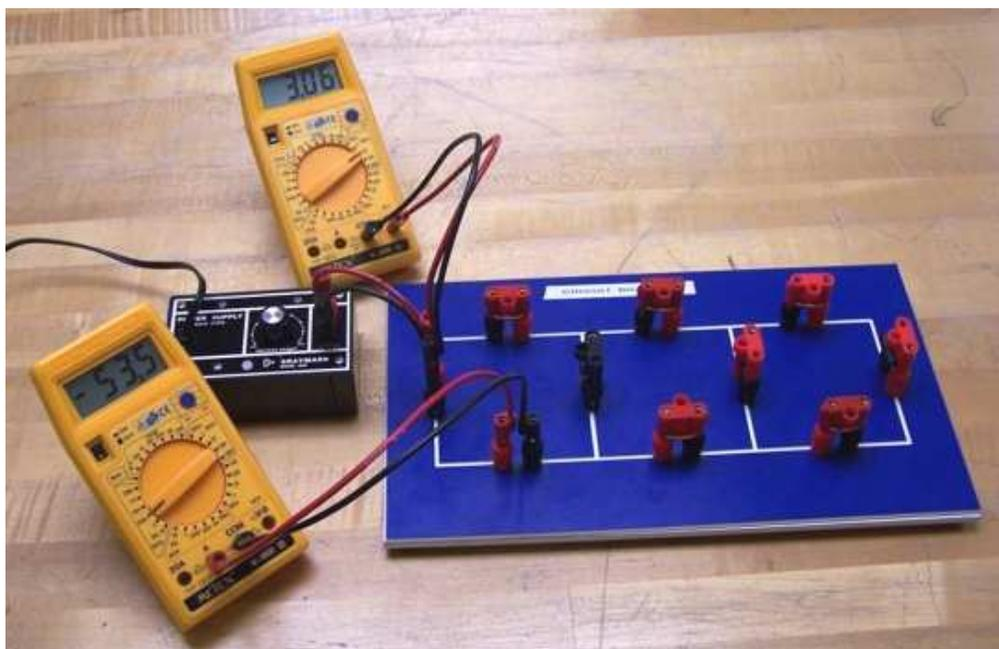
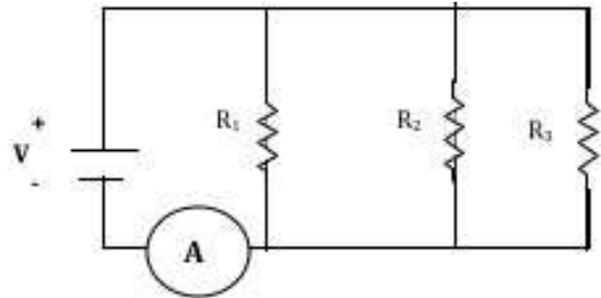

Figure 16.2: Parallel Circuit
Figure 16.5: Parallel Circuit Schematic
The second type of circuit you will construct is a **parallel circuit** (Fig. 16.2 and Fig. 16.5). Resistors are said to be in parallel when they are connected to each other at each end. In this way, the potential difference applied across the combination is the same as the potential difference applied across an individual resistor. The current through each resistor depends on the
16. Repeat Part 1, Step 1 - Step 8, for the parallel circuit (Fig. 16.5).